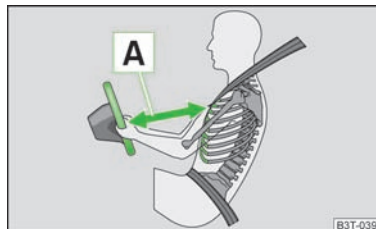

Fig. 141
- For the driver and front passenger it is important to maintain a distance of at least 25 cm to the steering wheel or dash panel » Fig. 141 **A**. Not maintaining this minimum distance will mean that the airbag system will not be able to properly protect you - hazard! The front seats and the head restraints must always also be correctly adjusted to match the body size of the occupant.